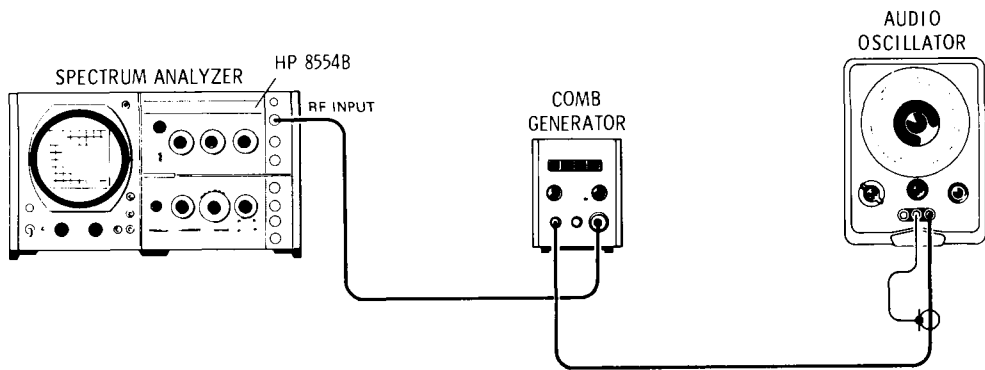

Figure 4-11. Scan Width Accuracy Test: 50 kHz/Div
6. To test the 50 kHz SCAN WIDTH PER DIVISION setting, connect the test setup shown in Figure 4-11. Set controls as follows: